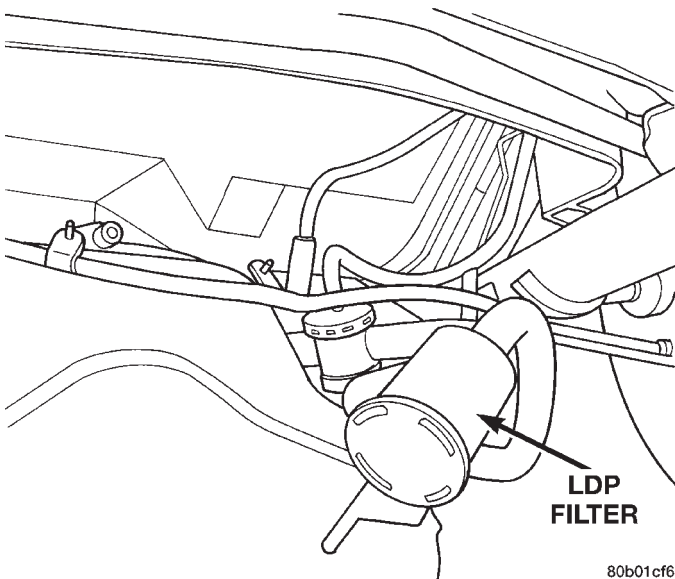

Fig. 34 Evap Components
- (10) Remove bolts and fuel tank straps. Passenger side first.
- (11) Lower fuel tank and remove the purge line (Fig. 34).